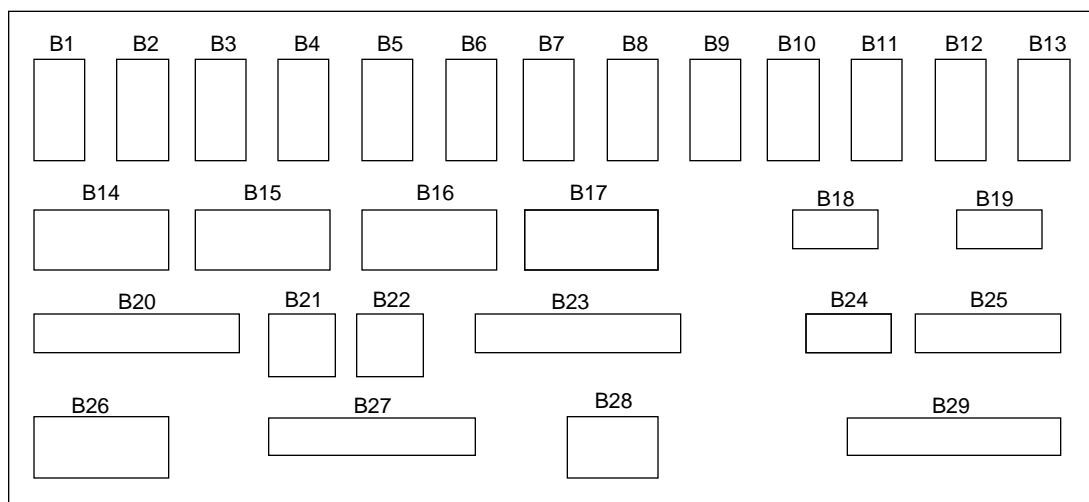

Figure 3. VME Bulkhead
**NOTE:** Try to use a location on the bulkhead that is in line with the newly installed controller card in the IOS to minimize the crossing of cables. Refer to Figure 3.